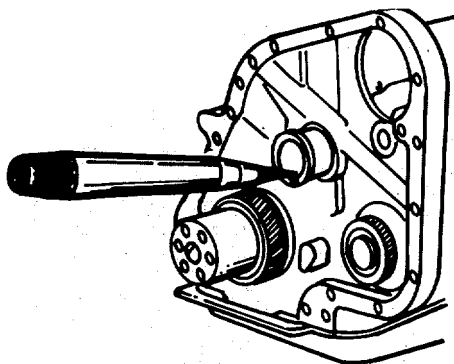

FIGURE 4-91. Cam Bushing Installation.
- g. Install cam bushing, mark the cam bushing and block to align the oil hole. (FIGURE 4-91)